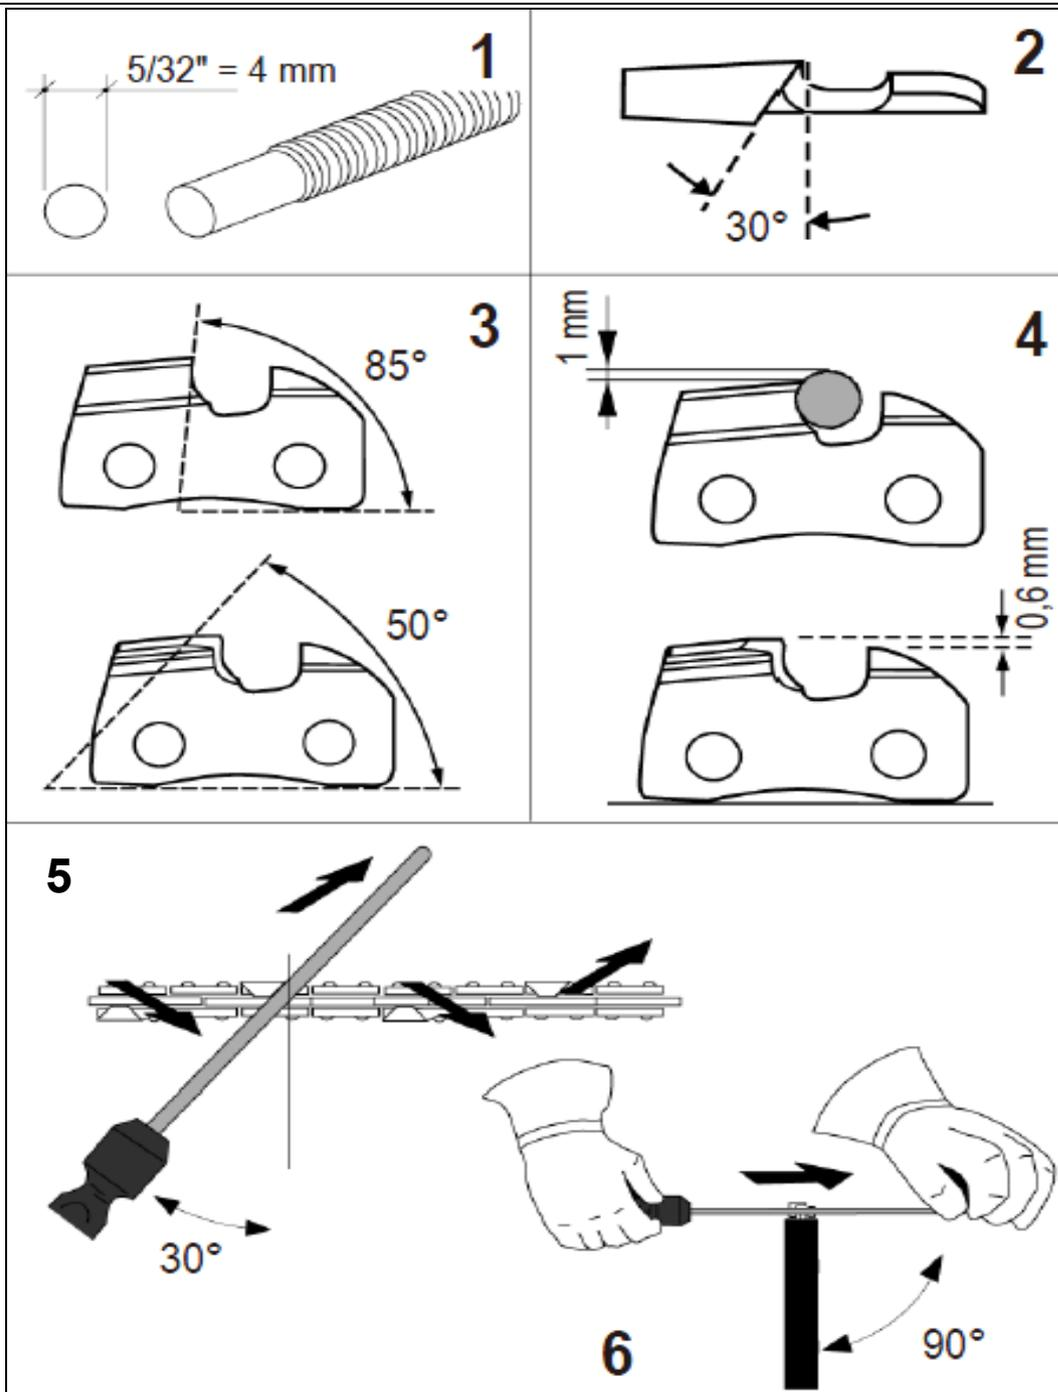

Fig.41
- Use a round file (specially designed for chains) with a 5/32" (4.0 mm) diameter, fig.41 item 1.
- Check the sharpening angles as shown in (fig.41 items 2-3).
- Sharpen the chain by filing it from the inside to the outside (fig.41 item 5) all the teeth on one side, then all the teeth on the opposite side.
- Position the file so that it overhangs by around 1mm (fig.41 item4) over the level where the cutters are located.